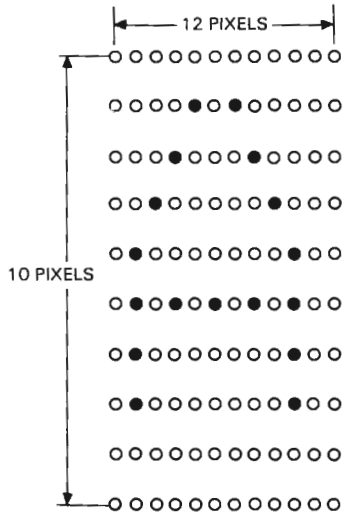

Figure 4-2: Example of an 80-Column Font Character "A"
1. Decide which pixels within the cell matrix you want to turn on to form the character pattern. Your design for the character "A" might look like Figure 4-2.